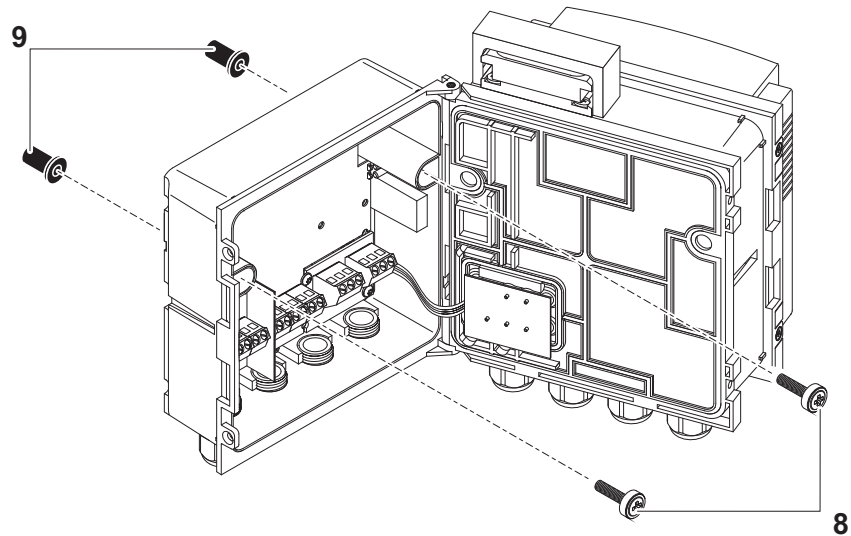

Fig. 3-4 Premounting the ISO blind nuts (variant 1)
- 6 Insert the cheese-head screws (pos. 8 in Fig. 3-4) with the plastic washers in the drilled mounting holes in the enclosure and loosely screw in the ISO blind nuts (pos. 9).
| 7 | Attach the prepared DIQ/S 182-XT-4-PR to the cover of the MIQ module. At the same time, ensure that the two clips on the DIQ/S 182-XT-4-PR click into place in the lid of the MIQ module. Subsequently, tighten the two screws (pos. 8 in Fig. 3-4). |